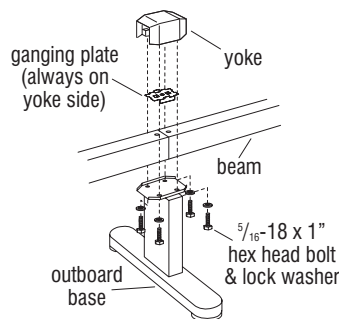

Figure 9
1. Set the pair of beams to be joined onto an outboard base. The alignment holes at the end of each beam must face up (Figure 9).
2. Position the ganging plate over the beams as illustrated so the tabs fit into the alignment holes. Place a yoke over the ganging plate, beam and base. Secure the outboard base to the yoke with four 5/16-18 x 1" hex head bolts and washers. Tighten diagonally (Figure 9).